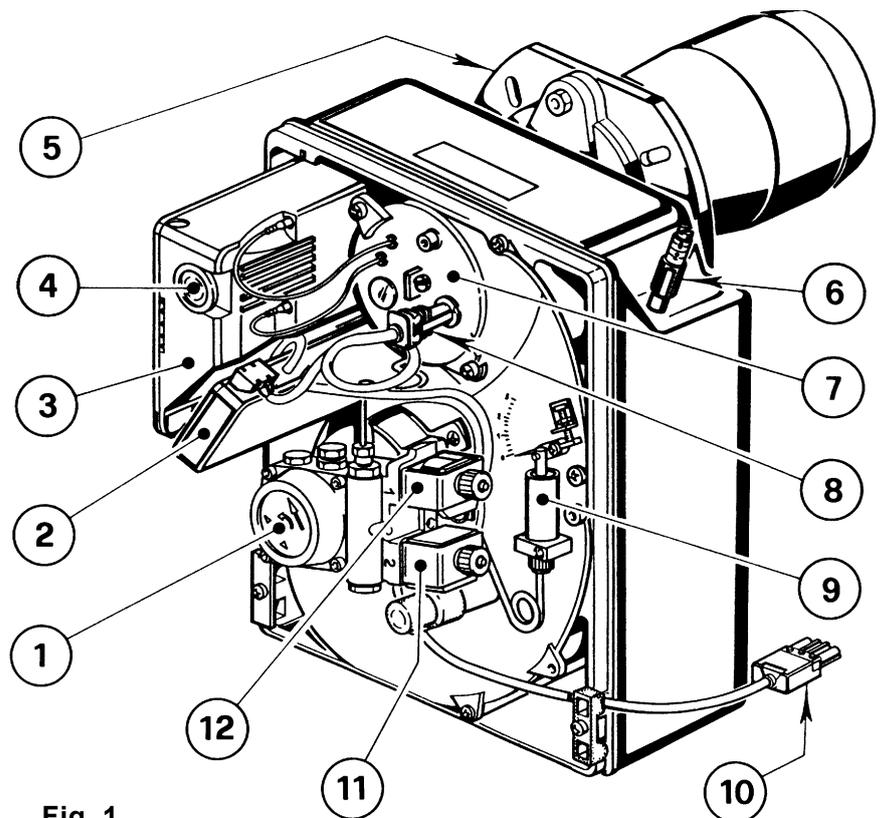

Fig. 1
A Lock out is indicated by a lamp on the flame control (4, Fig. 1, page 1).
- Clean the flame sensor, (8, Fig. 1, page 1).
A fault usually makes the lock-out lamp light which is situated inside the reset button of the flame control (4, Fig. 1, page 1).